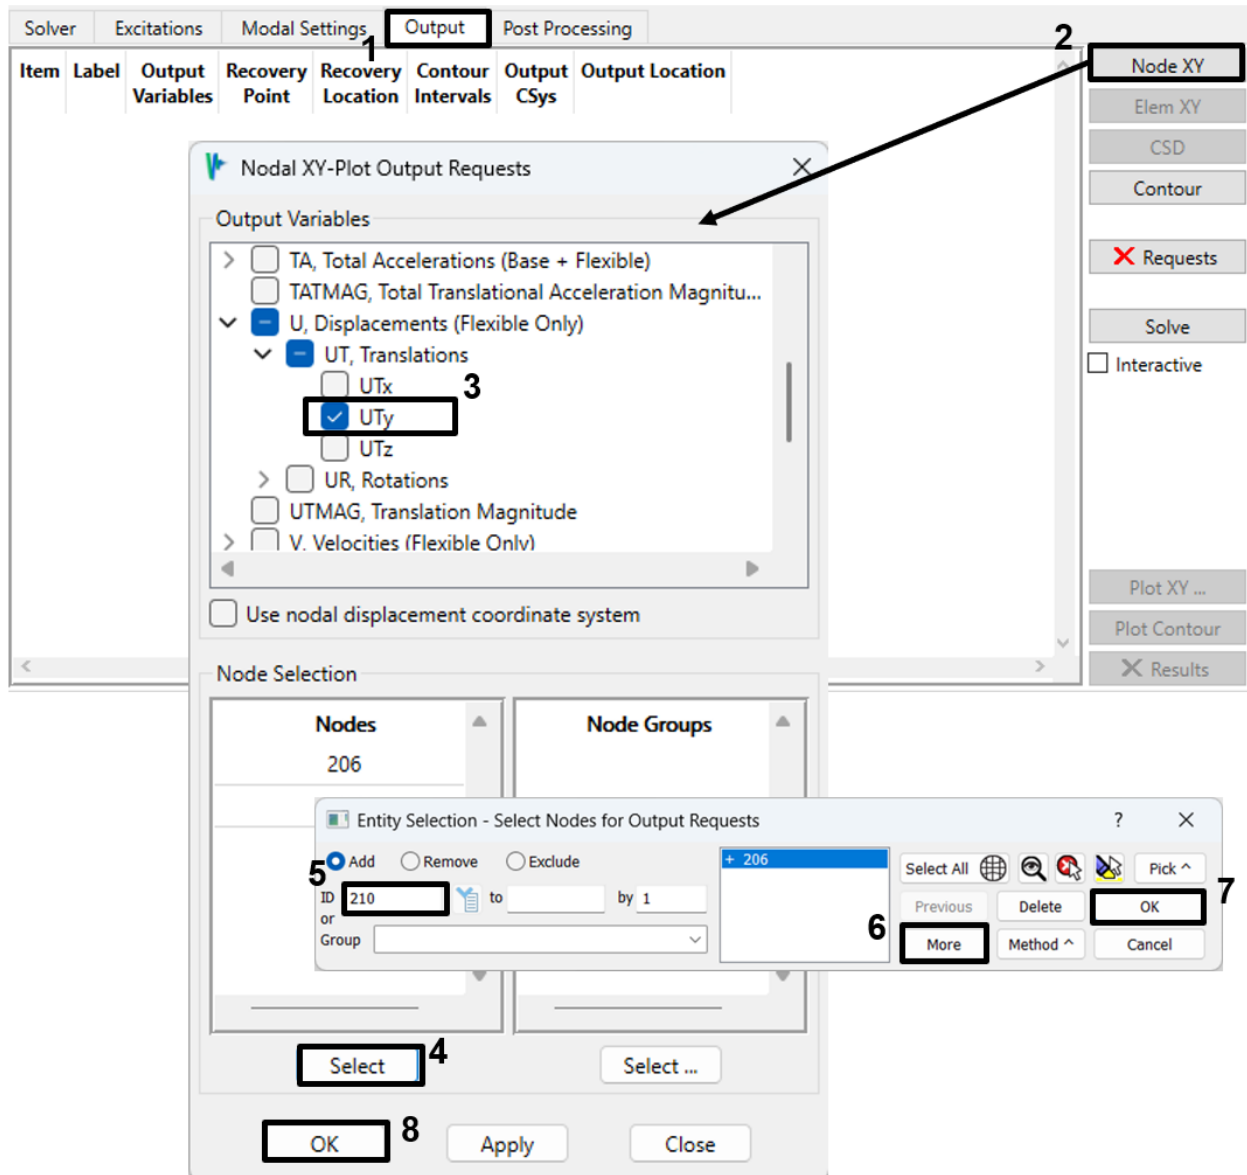

Figure 4-134. Request Y direction displacement XY output for nodes 206 and 210.
10. Go to the *Output* tab. To get a measurement of the relative displacement of the two monitored DOF over time, create a Nodal XY Plot output request for the Y displacement (UT_y), as shown in Figure 4-134. Select nodes 206 and 210.